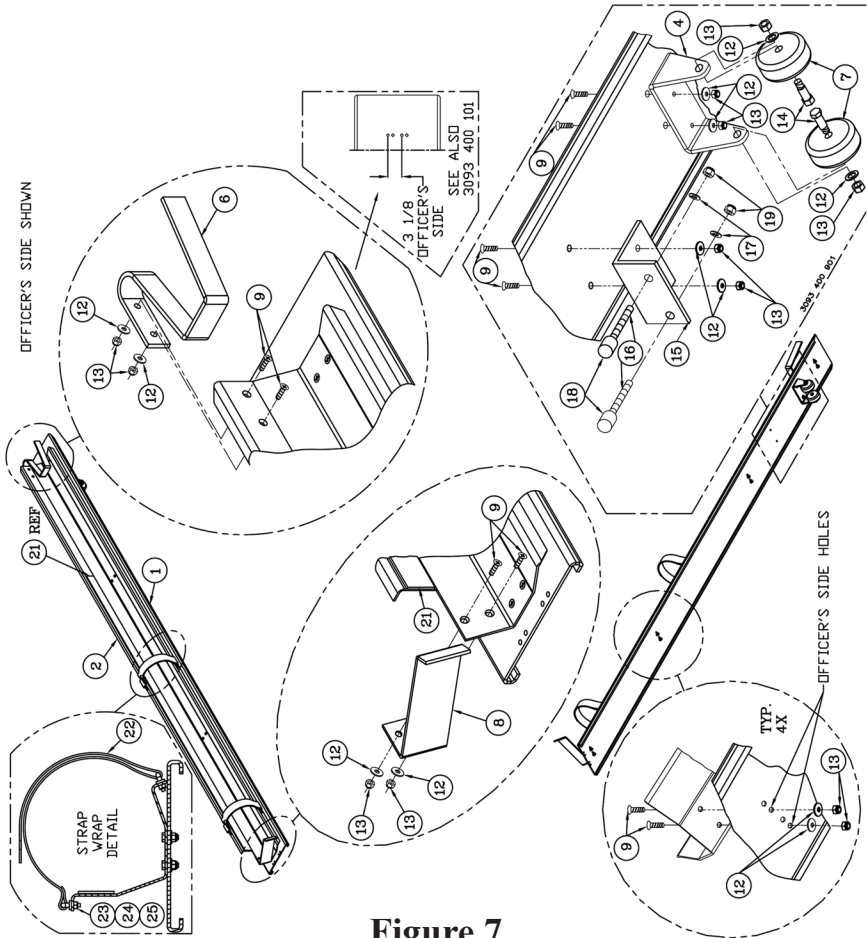

Figure 7
WARNING: Do not paint the Gantry Main Rail (Figure 7 & 7A, Item 1). Anodizing is acceptable if color is required.
1. Attach Gantry Pull Brackets (Figure 5, Item 2) to the Gantry Main Rail (Figure 7 or 7A, Item 1). Handle should hang approximately perpendicular to the Gantry Main Rail, resting flush against the rear body of the apparatus.
1. With the Gantry Tray Assembly (Figure 7 or 7A) in the stored position, place the Gantry Tray Catch on the apparatus shelf, flush with the cab-end of the Gantry Main Rail (Figure 4 or 4A Item 1).